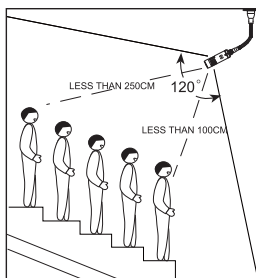

Fig.1
- The optimum sound accepting range is within 120° in horizontal space.(Fig.1)
- If more than 2 microphones will be used simultaneously in the same environment, keep the latter microphone 300 cm far from the former one.(Fig.1)